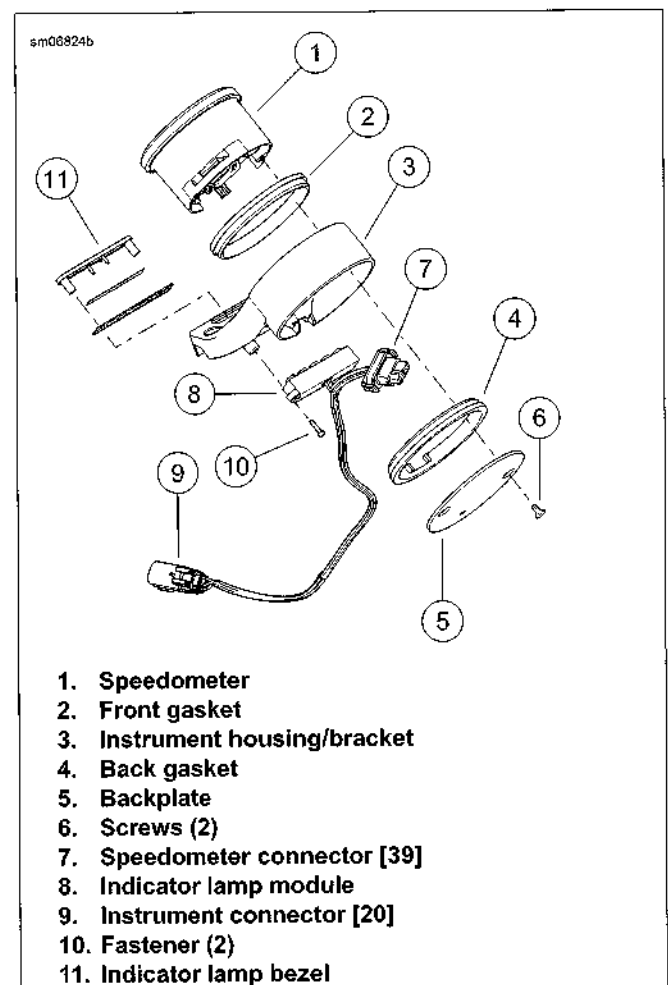

Figure 6-4. Speedometer: XL 883L/N/R, XL 1200CP/CB Mini-Ape Handlebar, XL 1200T, XL 1200V
1. See Figure 6-4. Install front gasket (2) on speedometer.
2. Thread speedometer harness and connector [39] (7) through instrument housing/clamp (3).